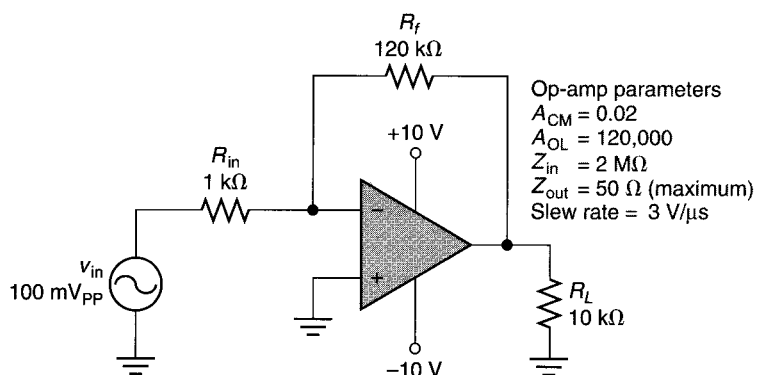

FIGURE 15.57
15. Perform a complete analysis of the amplifier in Figure 15.57.